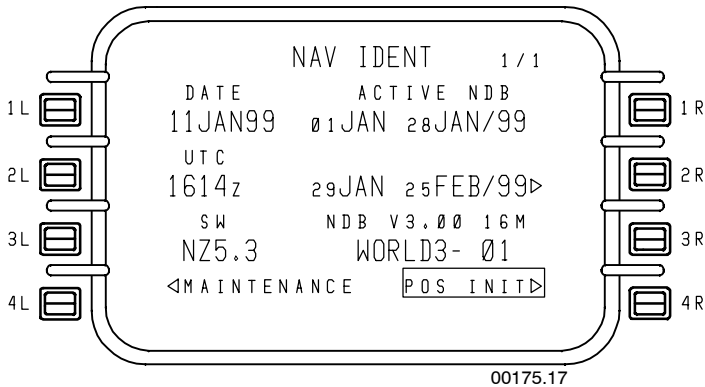

Figure 4-6
- **NAV IDENT 1/1** - Figure 4-6 is displayed when power is first applied.
The WORLD3-01, shown in Figure 4-6, indicates worldwide coverage and cycle of the NDB. Refer to page 6-184 for the NDB updating procedures. The next initialization step (POS INIT in inverse video) is displayed and selected at 4R.